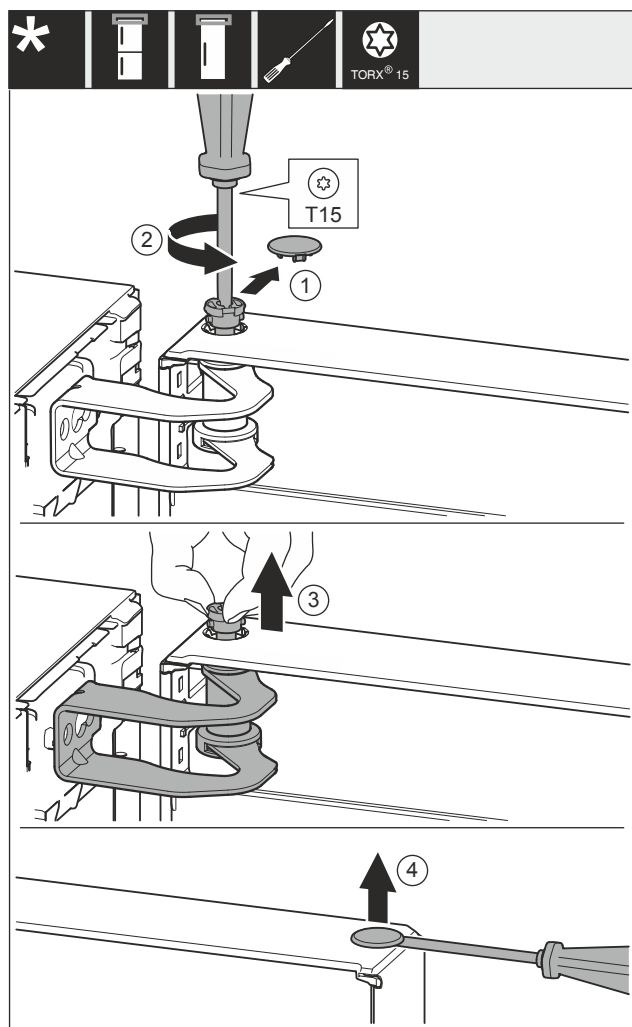

Fig. 8
- ▶ Carefully remove the cover Fig. 8 (1).
- ▶ Use screwdriver to loosen the bolts Fig. 8 (2) a little.
- ▶ Pull out the bolt Fig. 8 (3) with your fingers.
- ▶ Carefully lift and remove the cover Fig. 8 (4) with a screwdriver.